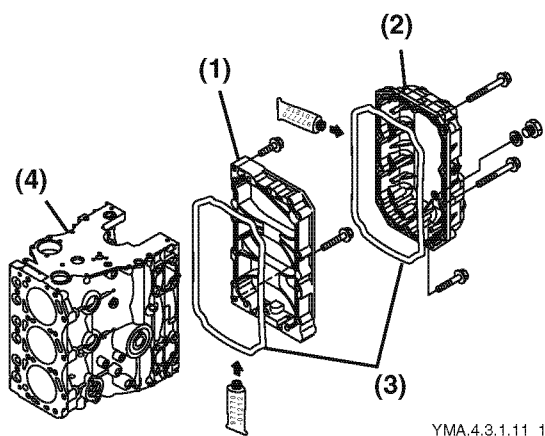

Figure 5-91
Remove the oil pan (**Figure 5-91, (2)**) and spacer (**Figure 5-91, (1)**).